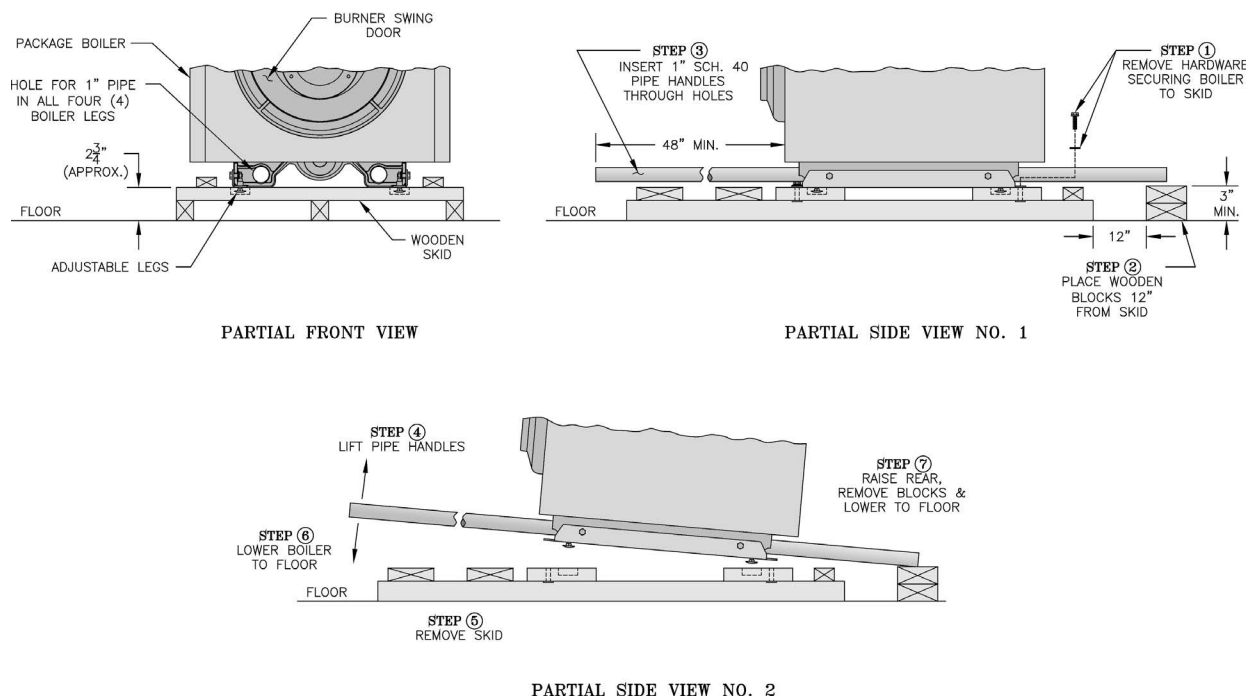

Figure 3-1: Packaged Boiler Removal from Skid
1. To reduce the risk of damage to boiler jacket, use the following procedure to remove from skid, see Figure 3-1:
Step 1. Boiler is secured to base with (4) 5/16 in. cap screws, (2) in front and (2) in rear of shipping skid, see Figure 3-1. Remove all securing hardware.
Step 3. Insert 1 in. Sch. 40 pipe handles through leg hole in front and rear legs. Center end of pipe on wooden blocks as shown in Figure 3-1.
Step 7. To lower rear of boiler, tilt unit slightly forward by pushing on smokebox collar or lift pipes protruding through rear legs until wooden blocks can be removed (see Figure 3-1). Slowly allow the weight of the boiler to tilt backward until rear legs rest on floor.